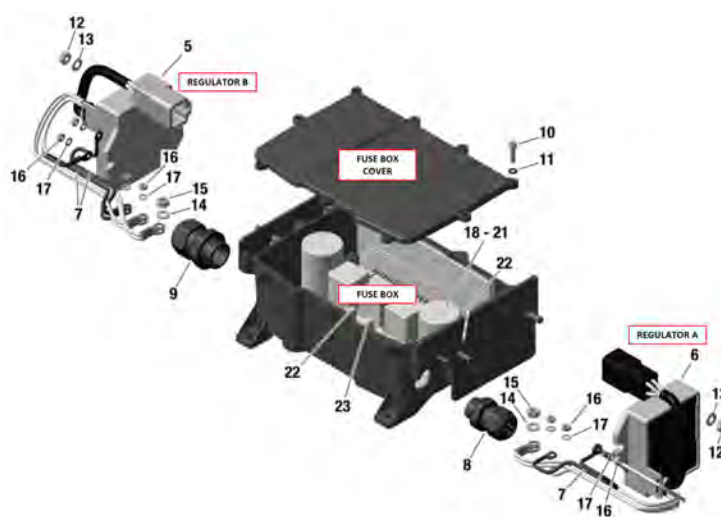
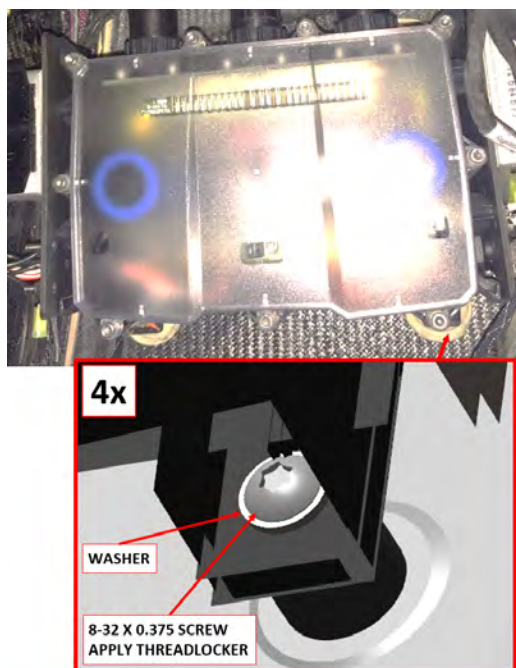

FIGURE 16-60
FIGURE 16-63
7. Remove the ground terminals from the ground studs. Retain hardware for re-installation. Fuse box components are labeled by number. See Figure 16-60.
1. Feed the regulator wiring through the strain relief. Use part #8 for Regulator A (6) and #9 for Regulator B (5). See Figure 16-60.
2. Secure the terminals with M5 lock nut (15), M4 lock nuts (16), and washers (14,17). See Figure 16-60.
4. Secure the fuse box cover with nine M4x16 Allen screws (10) and plastic washers (11).
- For Regulator A, use one M4 lock nuts (16) and washer (17) to secure two black ground wires (7) on one ground stud.
- For Regulator B, use two M4 lock nuts (16) and two washers (17) to temporarily secure two black ground wires (7) on separate ground studs. Additional wires will be added in subsequent steps.
6. Secure the regulator to the fuse box with two M6 lock nuts (12) and washers (13).
8. Secure the fuse box to the fuselage with four 8-32 x 0.375 screws and washers previously removed. Apply THREADLOCKER to screw threads. Torque to 7-9 in-lb. See Figure 16-63.